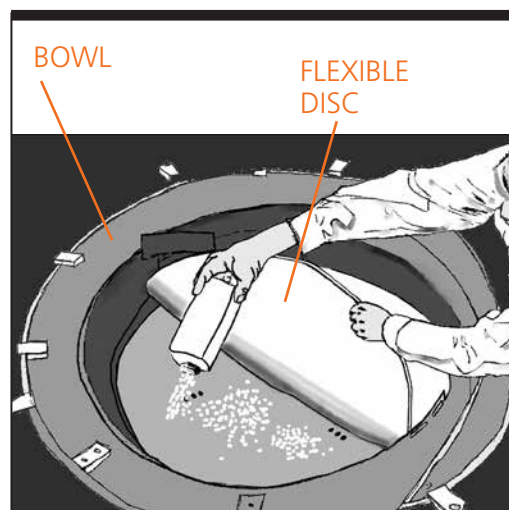

Figure 4-1. Add Talcum Powder Every 6 Months
- FT-40:** Every six months (more often if necessary) lift the flexible disc and liberally sprinkle the stationary ramp with talcum powder. This reduces friction and will lengthen the feeder's life (see Figure 4-1). Baby powder (such as Johnson's® baby powder, for example) is also acceptable. Don't use powdered graphite because everything it touches will turn black.